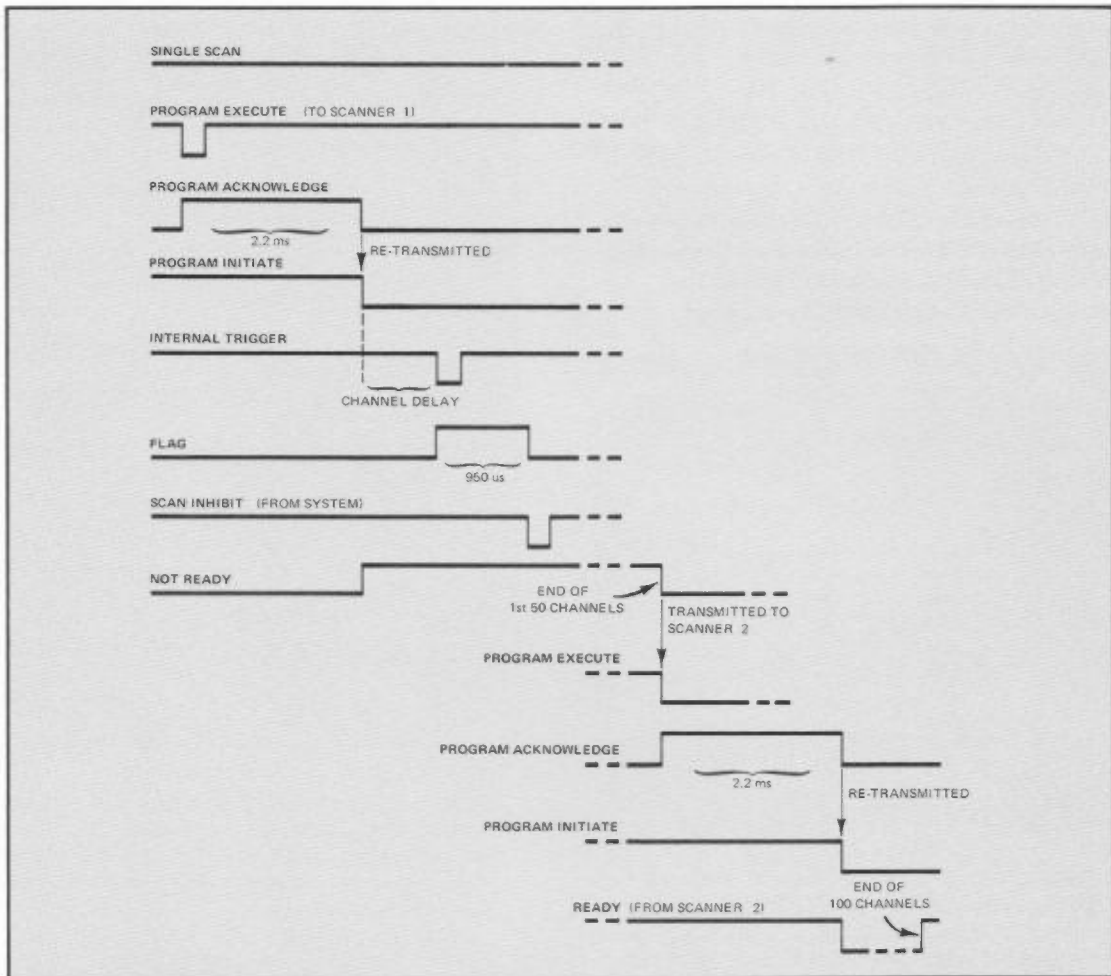

FIGURE 13
- The system will begin scanning with a PROGRAM INITIATE issued to Scanner #1. When Scanner #1 completes its scan, control is automatically transferred to Scanner #2. Cascading may be continued indefinitely. See Figure 13 for the timing.